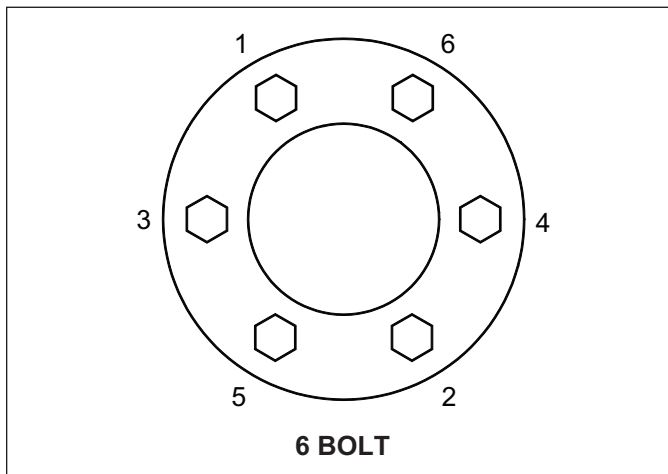

Figure 2-4: Tightening Sequence for 6-Bolt
- Install a Tire and Wheel Assembly onto each Hub with 1/2-20 x 1 Wheel Bolts. Tighten Wheel Bolts to 50 Ft-Lbs. using the sequence in **Figure 2-4**. Then tighten to a full torque of 80-85 Ft-Lbs.
4. Install a Tire and Wheel Assembly onto each Hub with 1/2-20 x 1 Wheel Bolts. Tighten Wheel Bolts to 50 Ft-Lbs using the Sequence in **Figure 2-4**. Then tighten to a full torque of 80-85 Ft-Lbs.